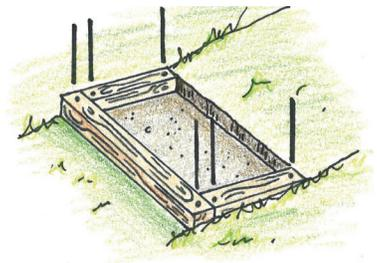

Figure 4
STEP 4. Prepare materials. Cut the timbers to the appropriate length. For each step, cut one riser timber as long as the step width and 2 timbers as long as the step depth for the side timbers (remember that each step should extend 6" past the next step's riser.) Drill $\frac{1}{2}$ " diameter holes approximately 6" from the ends of each timber (Figure 4).
STEP 5. Position timbers. Position the timbers in the step and remove or add soil as needed to level them (Figure 4).
STEP 6. Anchor timbers. Drive the steel rebar through the drilled holes on the end of each timber and into the ground. Make sure the rebar is level with the timber surface or slightly recessed since the edges may be sharp (Figure 4).
STEP 7. Dig and level inside step. Shovel out the soil inside the step to create a surface roughly level with the bottom of the timbers. Additional soil can be removed to provide more area for infiltration if desired. Make sure to dispose of excavated soil in a place where it will not wash away (Figure 4).